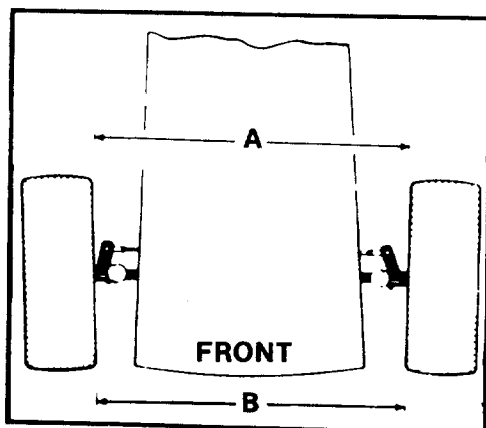

FIGURE 23
3. Adjust the tie rod assembly for correct toe-in. Dimension "B" should be approximately 1/8" less than dimension "A". See figure 23.